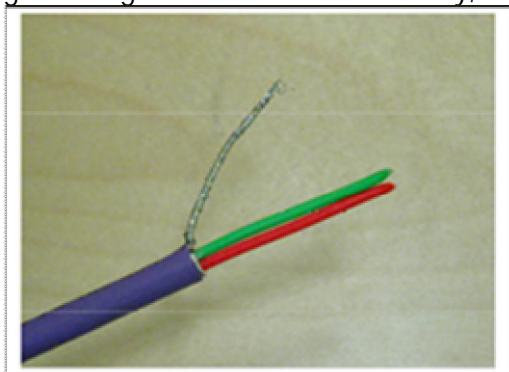

Figure 4-5.
1. Strip about 5 cm of the Profibus cable in the same way as shown in *Figure 4-5* but **cut off the grey cable shield**.